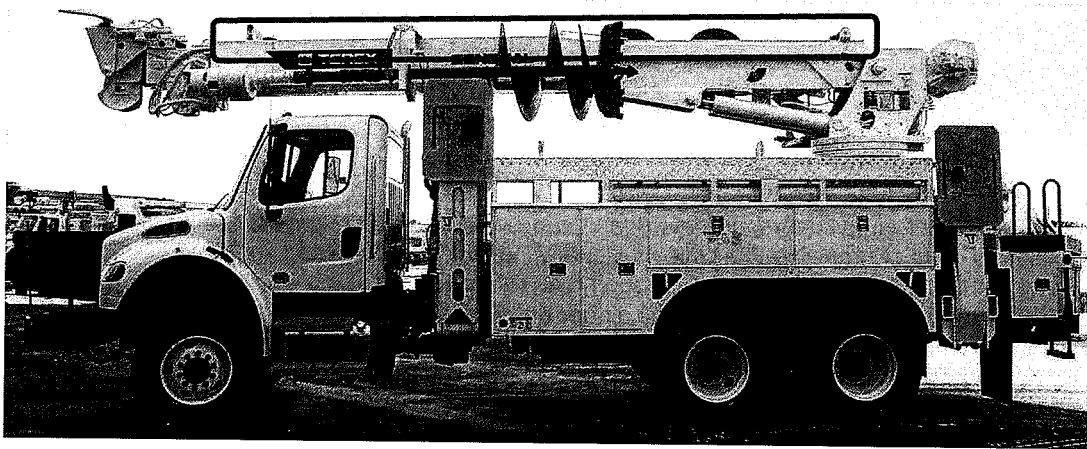

Figure 2. General Digger Derrick: Weld to Inspect – Main Boom
- i. Main boom upper left weld seam (when viewing the boom from the turntable end) – see Figure 2 for reference.